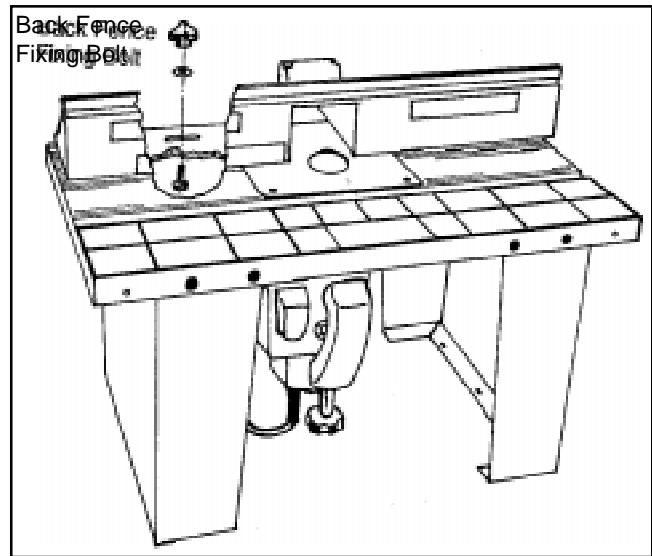

Fig. P.1
1. Position **Back Fence** assembly to **Table Surface** as shown in fig. P.1.